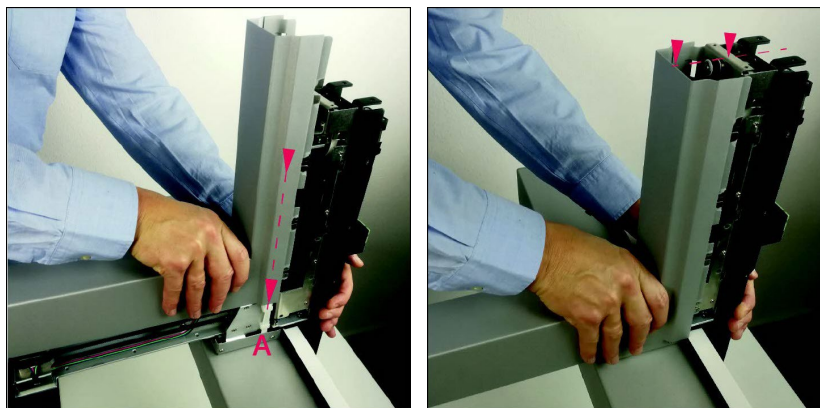

Figure 90: Rear Tower Assembly 1
1. Lower the L-shaped rear tower cover in a vertical direction. Ensure that the vertical tower's widened profile is in line with the small flat cable (A) in the tower base. See Figure 90.
2. Lower the L-shaped tower rear cover until the top of the body matches the height of the vertical tower construction. Note that the rear tower cover cannot be lowered any further in this position. See Figure 90.